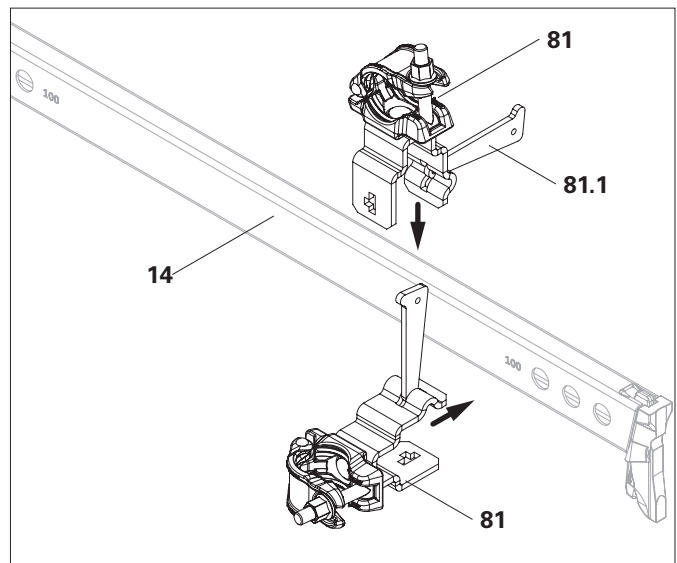

Fig. A10.03a
1. Pull the wedge (**81.1**) out of the clamping part and put the clamping part over the horizontal ledger (**14**) from the side or from above. (Fig. A10.03a)